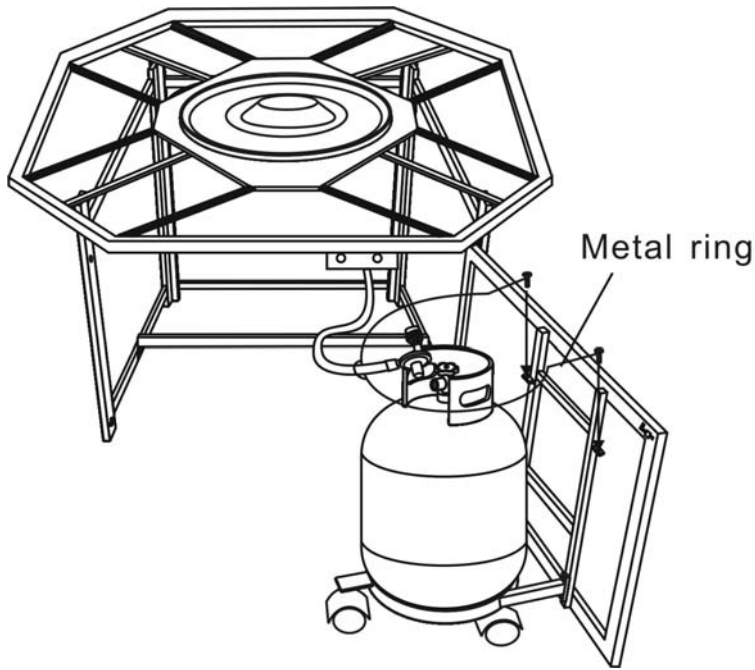
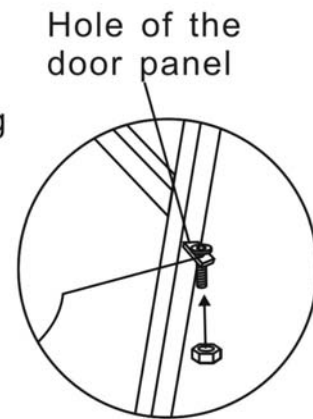

Figure 9
Figure 9a
9. Attach the metal ring ( as shown in Figure 9) pre-fitted with gas hose which is connected to the table top , into the hole of the door panel, then use hex bolt driver to tighten the 1/4"x5mm nut , the gas tank has fixed as shown in Figure 9a. Connect the regulator as shown in Figure.10. Turn the black handle clock-wise to tighten. Turn the handle counter clock-wise to remove. The hose must point down. Check that the valve is turned all the way clockwise to the "OFF" position.